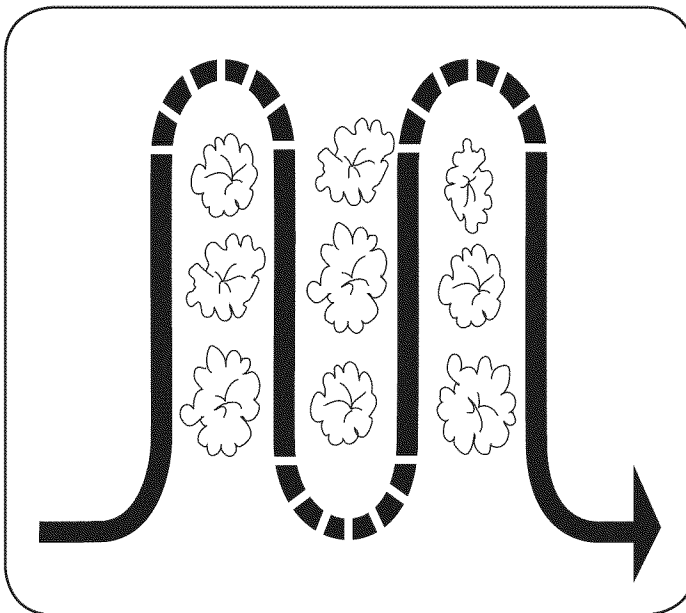

Figure 18
- When cultivating (breaking up the surface soil around the plants to destroy weeds, See Figure 18), try to have the tines only dig 1" to 2" deep. Using the shallow tilling depth helps prevent injury to the plants whose roots often grow close to the surface. If needed, lift up on the handlebars slightly to prevent the tines from digging too deeply. (Cultivating on a regular basis not only eliminates weeds, it also loosens and aerates the soil for better moisture absorption and faster plant growth.) Watering the garden area a few days prior to tilling will make tilling easier, as will letting the newly worked soil set for a day or two before making a final, deep tilling pass.